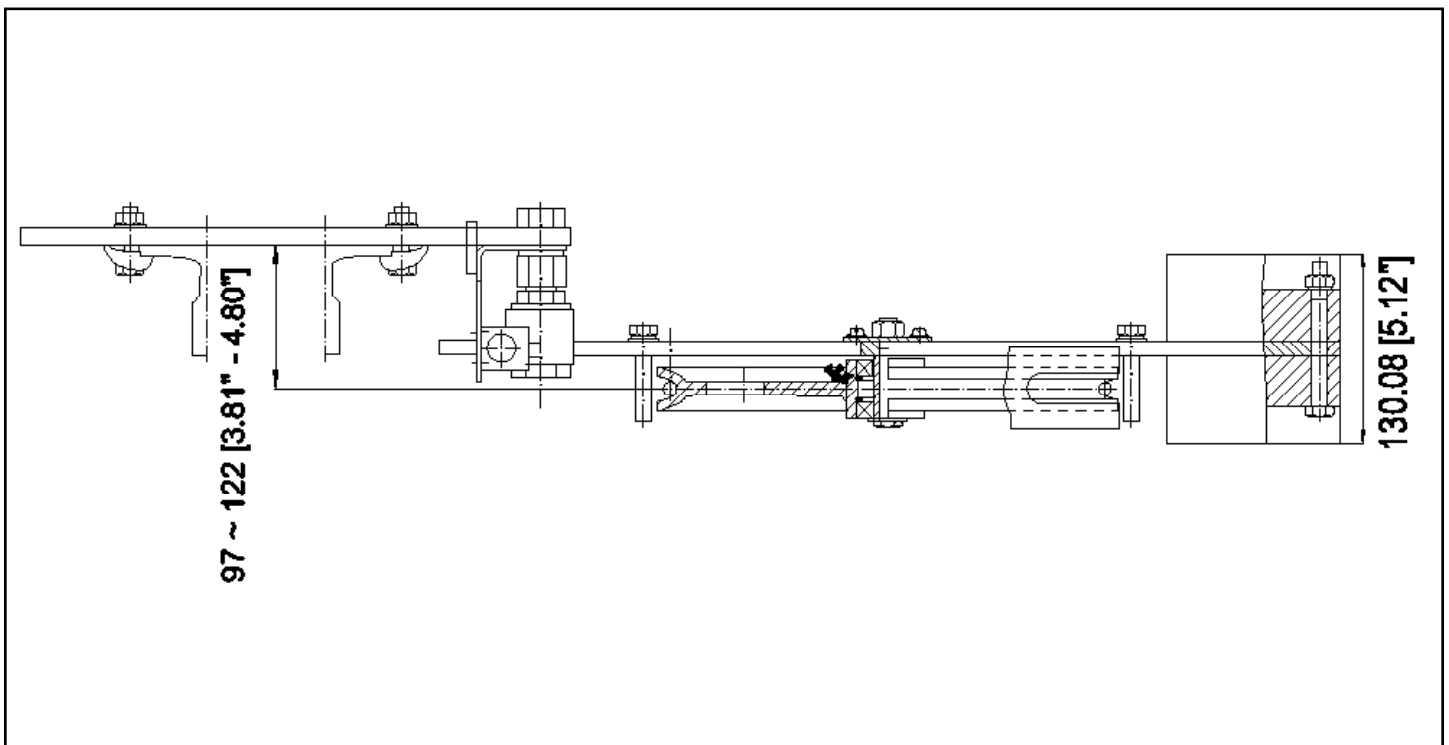

Figure 10
4. Remove the swing arm from the pivot point bolt and rotate 180 ° along the longitudinal axis, so that the sleeve is positioned beyond the end of the pivot point bolt (*see figure 10*).